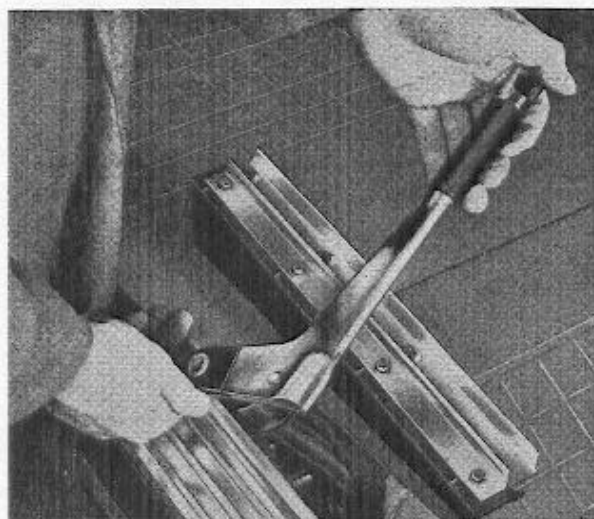

Fig. 60. Removing the handbrake lever.
4. Move the brake lever (15) towards the centre of the vehicle until it releases at the outer bearing. Remove the rubber seal and pull out the handbrake lever forwards with shaft and lever, see Fig. 60.
5. Screw out the locking screw (18) and remove the loop (20) and button (19). Take the spring out of the lever. Remove the pin (13) and take out the push rod (16) and pawl (12).